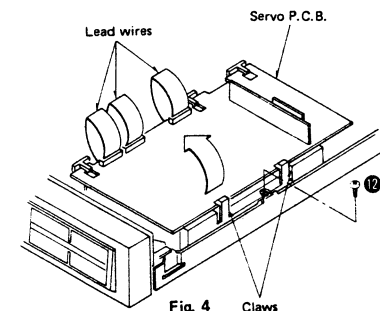

Fig. 4
- Release the 2 claws [Fig. 4] in the direction of the arrow and then lift the servo P.C.B.
- Push the 3 claws [one by one] in the direction of the arrow (A) in Fig. 5, and remove the servo P.C.B. by pulling it in the direction of the arrow (B) [Fig. 4].
- To remove the audio P.C.B., remove the setscrew ⑫ [Fig. 4].
2. Release the 2 claws [Fig. 4] in the direction of the arrow and then lift the servo P.C.B.
4. To remove the audio P.C.B., remove the setscrew ⑫. [Fig. 4]